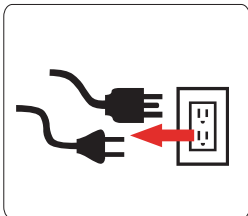

Fig 13
- All electrical loads **MUST** be disconnected from the generator. Never start or stop the engine with electrical devices plugged in to the receptacles. (See fig 13)